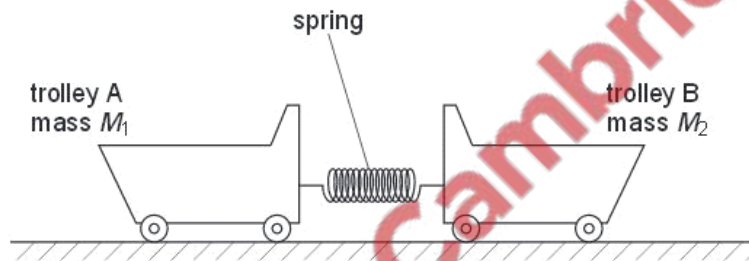

Fig. 3.2
- (b) The spring in (a) is used to join together two frictionless trolleys A and B of mass M_1 and M_2 respectively, as shown in Fig. 3.2.